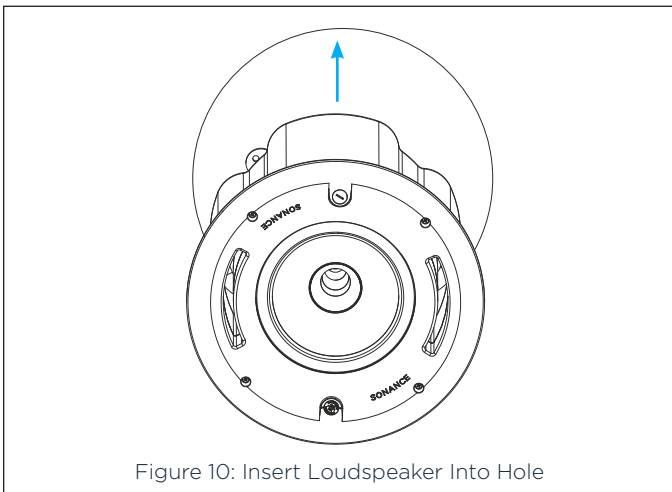

Figure 10: Insert Loudspeaker Into Hole
- Make sure the Roto-Lock Clamps are in the full clockwise position so that all the clamps are tucked within the cutout border. Insert the loudspeaker into the hole in the ceiling (see Figure 10).